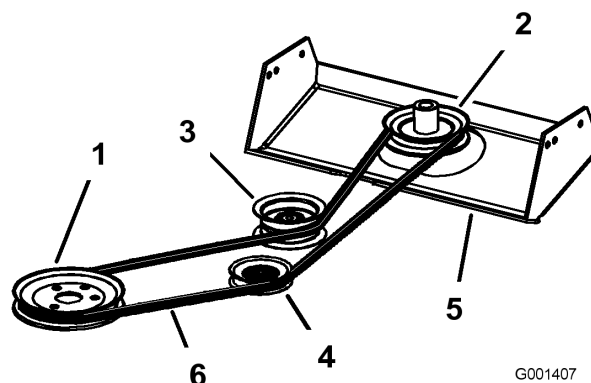

Figure 20
1. Remove the 4 bolts in the skid plate and remove the skid plate (Figure 20).
2. Route the bagger belt around the gearbox drive pulley and the bagger pulley (Figure 20).
6. Install the skid plate (Figure 20).